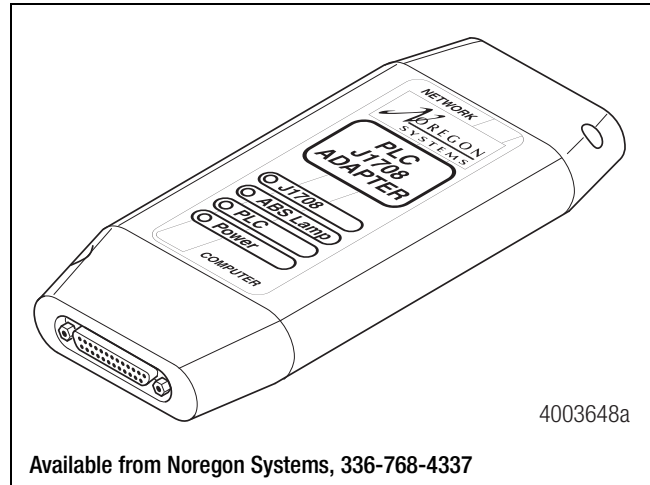

Figure 2.6
- Use as a trailer/tractor tester to ensure that PLC is functioning correctly. Figure 2.6.